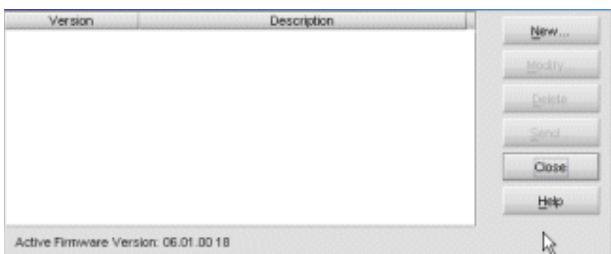

Figure 55 Firmware Library dialog box
3. Select the **Firmware Library** from the Maintenance menu. The Firmware Library dialog box is displayed (Figure 55).
3. Select **Maintenance > Firmware Library**. The Switch Firmware Library dialog box is displayed (Figure 55).